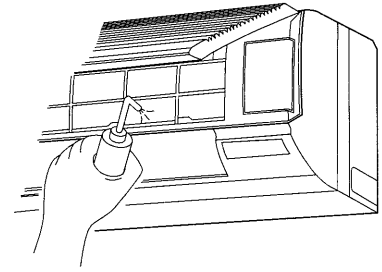

Fig. 17
- After connecting all pipes, carry out a drain check by opening the front panel, removing the air filter, pouring some water into the drain pan, and making sure the water drains out of the hose smoothly. (Refer to Fig. 17)